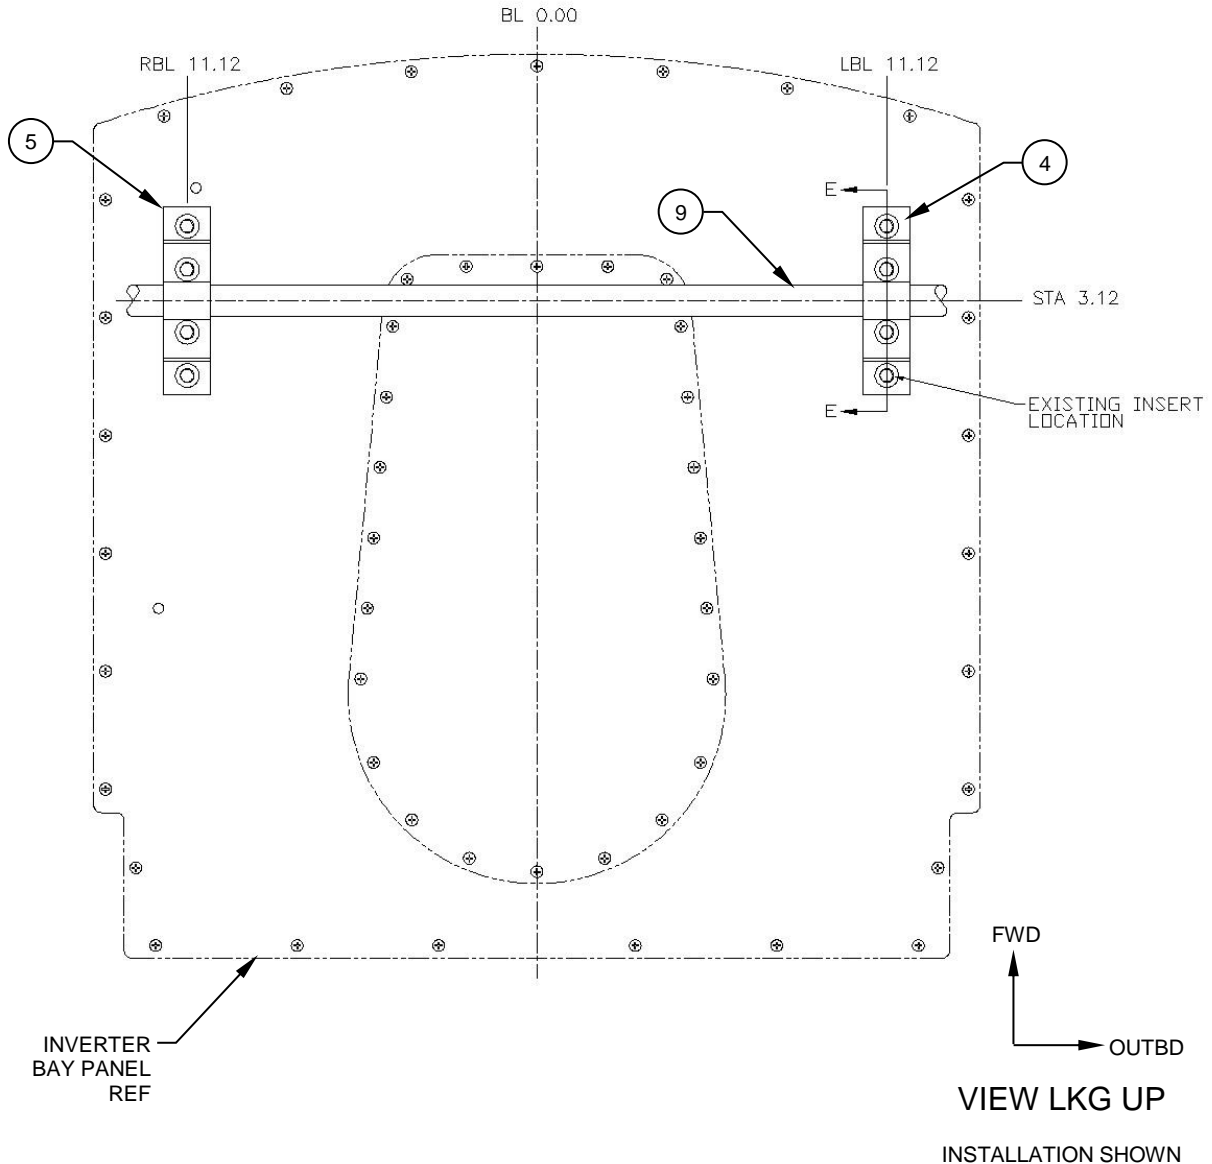

Figure 2
3. Locate the Mounting Block, Assy, LHS (Item 4) utilizing the existing insert on the left hand side of the panel, loosely install the Mounting Block, Assy with the supplied hardware. Reference Figure 2.
4. Place the Mounting Block, Assy, RHS (Item 5) in its approximate location on the panel. Reference Figure 2.
5. Lay the Crosstube, Assy (Item 9) into the slots in the Mounting Block, Assys (Items 4 & 5). Reference Figures 2 & 3.
6. Align Crosstube, Assy (Item 9) perpendicular to aircraft butt line axis and position the mounting blocks according to the dimensions shown. Reference Figure 2.